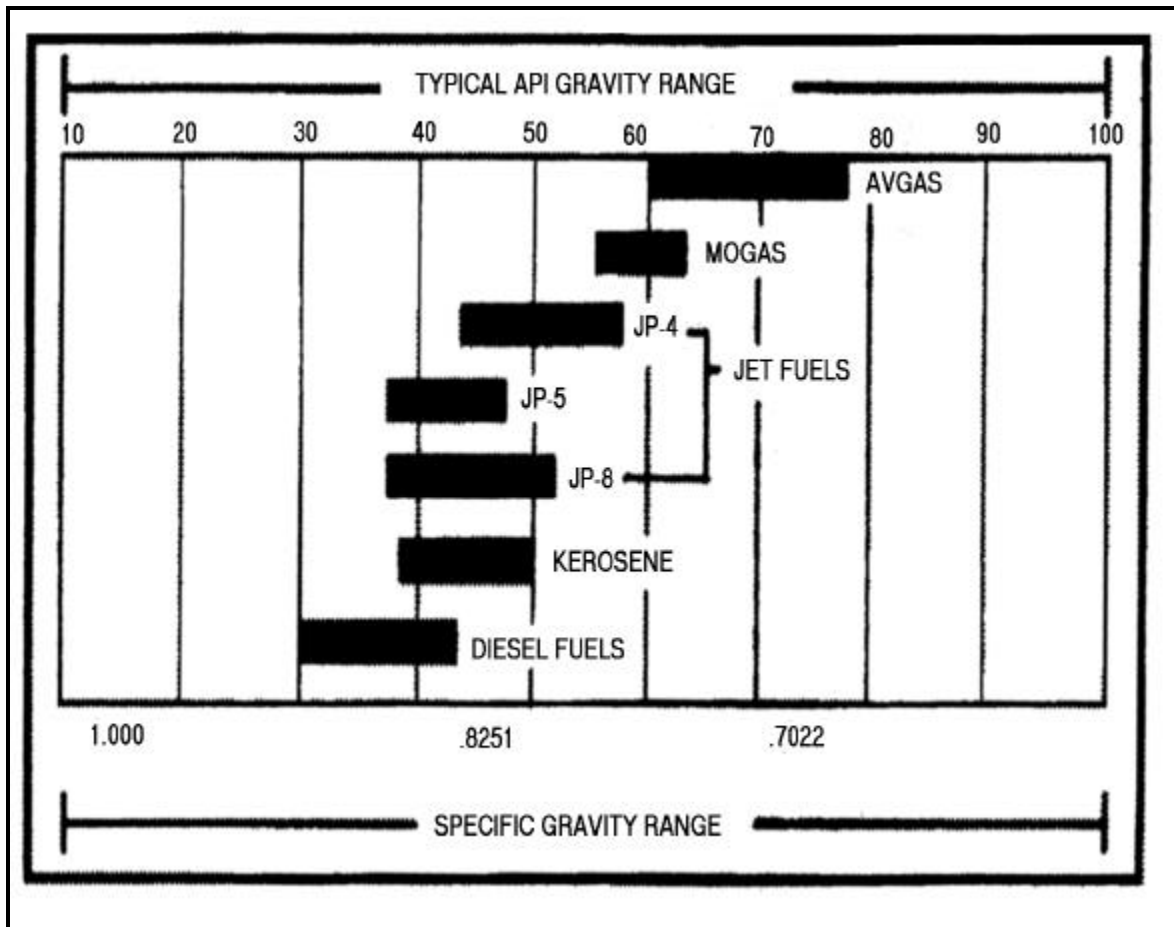

Figure I-1. Typical API gravity ranges (corrected to 60 degrees)
- Step 6. Use the hydrometer with the range closest to the API gravity range of the fuel you think you are testing. See Figure I-1, page I-2. For example, if you think the fuel is diesel and the API gravity range of diesel is between 30.0 and 42.0, use the third or fourth hydrometer from the equipment list.
•Step 1. Compare the corrected API gravity with the API gravity ranges shown in Figure I-1, page I-2. If the corrected API gravity of the product is lower or higher than expected, it indicates possible commingling with either heavier or lighter products.